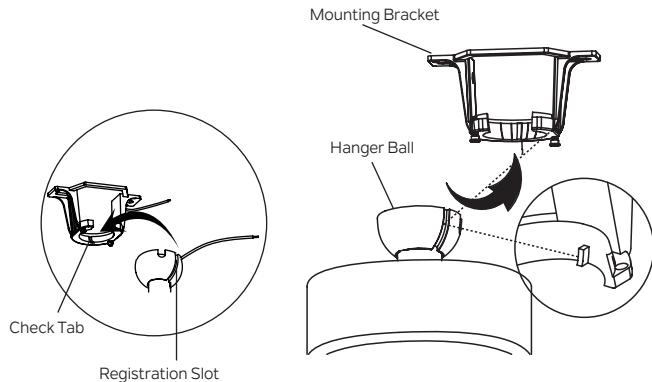

Fig. 12
**Step 6.** Now lift the motor assembly into position and place the hanger ball into the mounting bracket. Rotate until the "Check Tab" has dropped into the "Registration Slot" and seats firmly. (Fig. 12) The entire motor body should not rotate if this is done correctly.